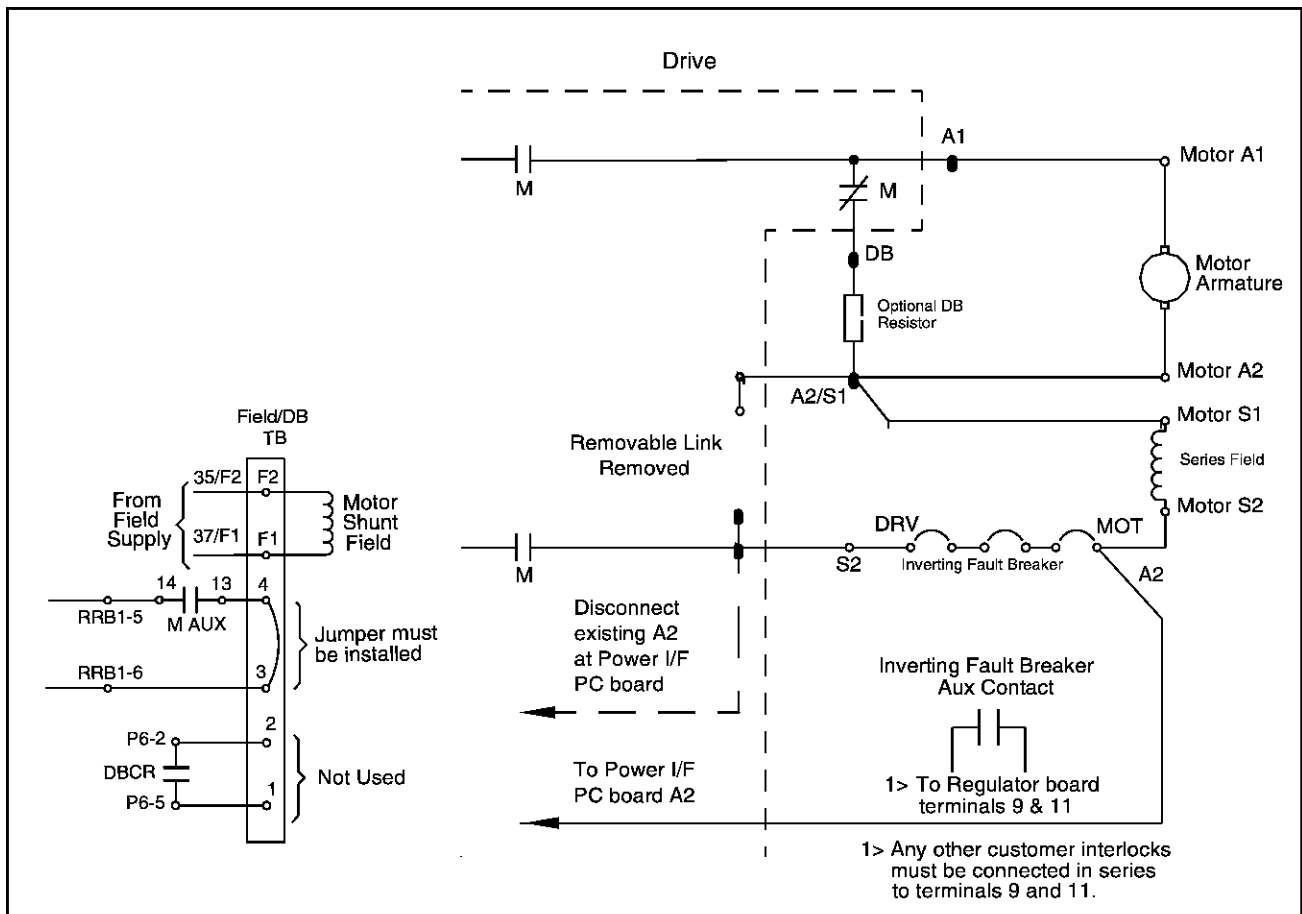

Figure 6 – Inverting Fault Circuit Breaker with Series Field (S1 to A2/S1) and Dynamic Braking
- Step 2. Refer to figure 6. Connect motor series field lead S2 to Inverting Fault Circuit Breaker terminal MOT. (See figure 9 for the location of the breaker's MOT terminal.) Terminate the breaker side of the leads with lugs of the appropriate gauge.